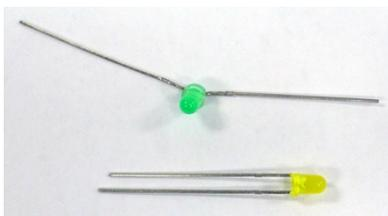

Figure 7: LED Cathode Is Shorter
4. Identify the cathode (negative) side of the red LED. There are four ways to identify the cathode (refer to Figure 7): 1) the wire on the cathode side is shorter, 2) there is a flat spot on the plastic by the cathode (shows clearly on the right of the green LED in Figure 7), 3) if you hold the diode up in front of a light, you will see a triangle...the wide side is attached to the cathode, and 4) if the diode doesn't flash when you do the experiment, it is probably backwards. Attach the diode to the spring clips so its cathode is to the left, toward the transistor.